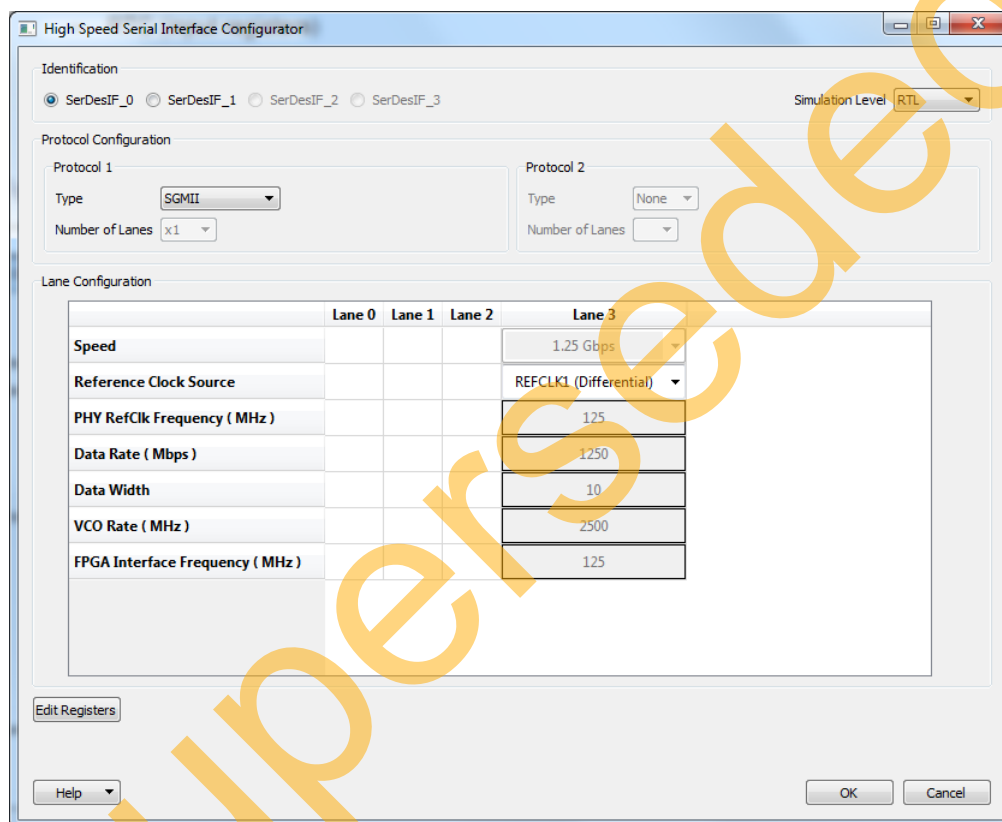

Figure 5 • High Speed Serial Interface Configurator Window
- High speed serial interface (SERDESIF) SERDES_IF IP, configured for SERDESIF_0 SGMII lane3, which is dedicated for the TSEMAC. Refer to Figure 5. To know more about high speed serial interfaces, refer to the SmartFusion2 SoC FPGA High Speed Serial Interfaces User Guide.
Figure 5 shows the **High Speed Serial Interface Configurator** window.